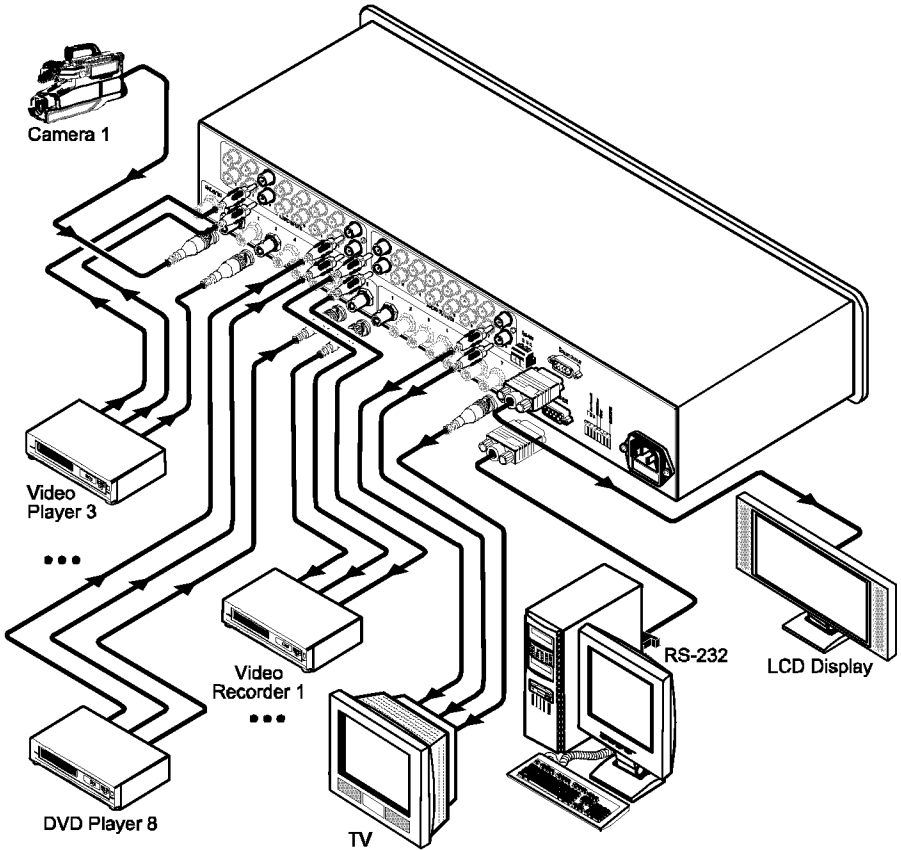

Figure 2: Connecting the VS-808DS 8x8 Video Audio Matrix Switcher / Scaler
To connect¹ the **VS-808DS**, as the example in Figure 2 shows, do the following²:
5. Connect the power cord to the mains electricity (not illustrated in Figure 2).